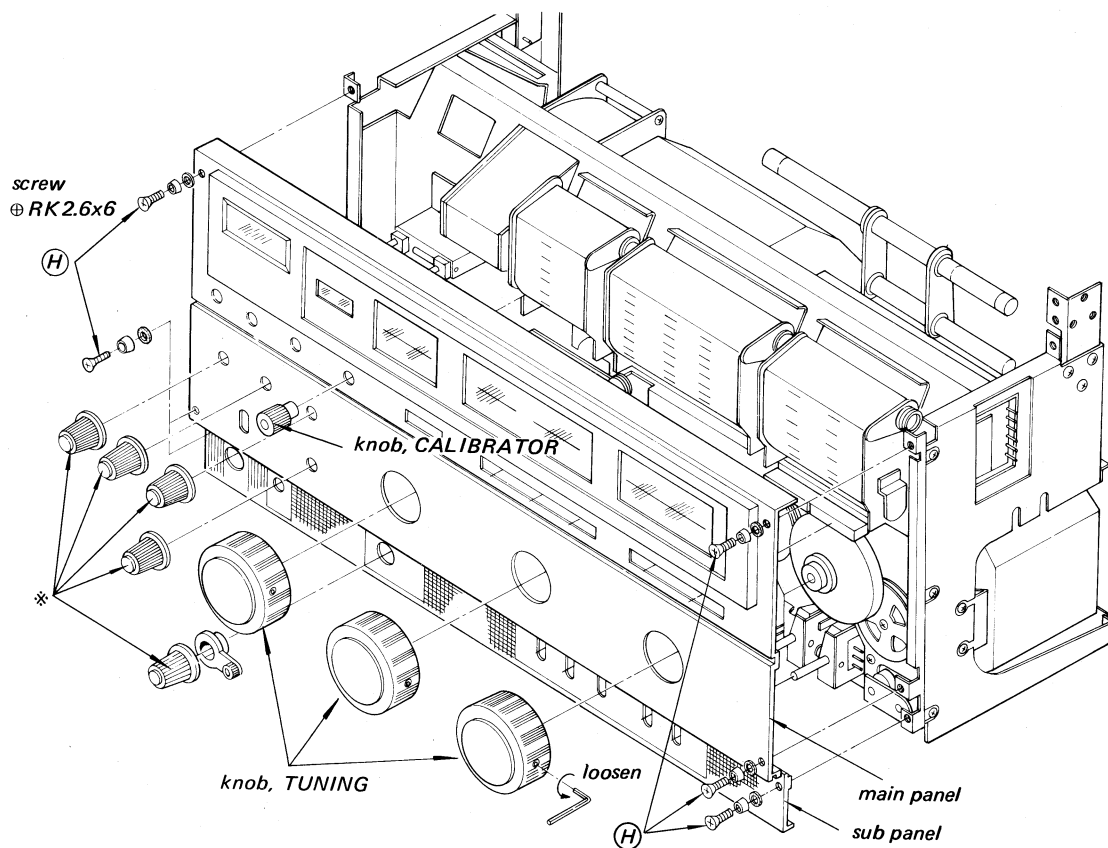

Fig. 2-2.
2. Pull off the five control knobs marked \* in Fig. 2-2.
3. Remove the six screws marked (H) and remove the main panel and the sub-panel.